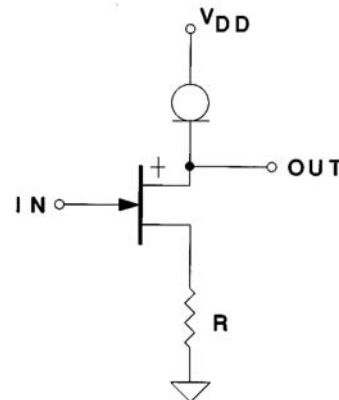

Figure 12. Drain Load
**Drain Load**—Using a CLD as a load for an FET amplifier will increase the voltage gain (Figure 12).